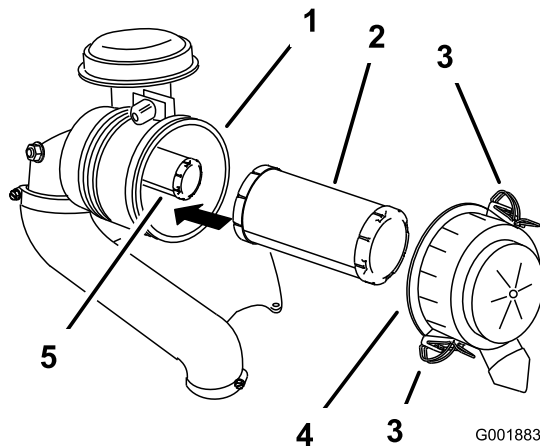

Figure 36
3. Release the latches on the air cleaner and pull the air-cleaner cover off the air-cleaner body (Figure 36).
5. Gently slide the primary filter out of the air-cleaner body (Figure 36).
2. If the safety filter is being replaced, carefully slide it into the filter body (Figure 36).
3. Carefully slide the primary filter over the safety filter (Figure 36).
4. Install the air-cleaner cover with the side indicated as **up** facing upward and secure the latches (Figure 36).